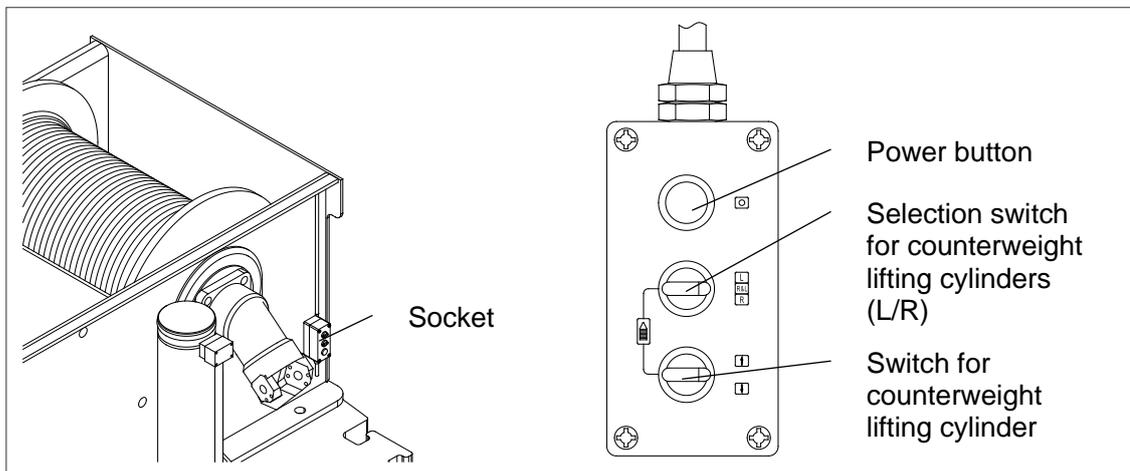

Figure 05 – 16
- Connect the counterweight remote control box to socket on the rear part of slewing table to carry out relevant operations. As shown in Figure 05 – 16.